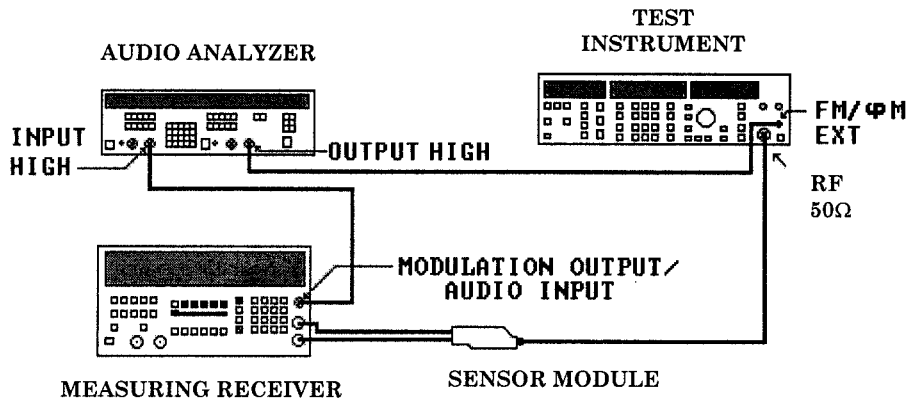

Figure 8. PM modulation.
- (1) Connect equipment as shown in figure 8.